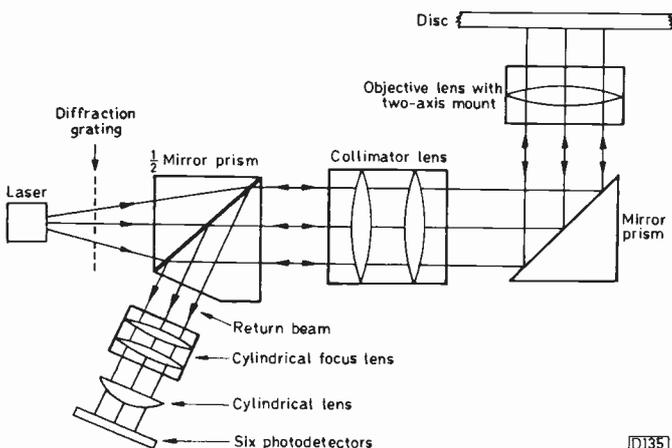

Fig. 4: Arrangement of the flat optical pickup (FOP).
**Fig. 4 (right):** Areas affected by the methods of adjusting the purity. (1) Affected by the rings, (2) affected by yoke positioning, (3) corrected by using disc magnets.
action. Once the red area has been centred, move the yoke backwards until a full red raster is obtained. In practice small purity errors will still be present. Position the yoke for optimum purity then correct these small purity errors by using disc magnets that stick on the back of the c.r.t. – these magnets are available from Sony under part number 1-452-032-00. They are self-adhesive. Also available are disc magnets that can be rotated with a screwdriver to give fine adjustment – part number 1-452-094-00. Fig. 4 shows the effects produced by these three methods of purity correction. Secure the yoke in position with the three rubber wedges.
The main problem with the T-type assembly is its comparatively large size. To reduce the deck size, and make possible the introduction of personal CD systems, a smaller laser assembly was required. For this reason Sony developed the single-beam assembly. It still left player manufacturers with some design problems which we'll go into later. A better solution was found in what is called the flat optical pickup (FOP). This is illustrated in Fig. 4: you will see that the polarising prism and quarter-wavelength plate have been replaced by a half mirror prism.
When light meets a half mirror prism fifty per cent of it passes straight through and the other fifty per cent is reflected. In the arrangement shown in Fig. 4 fifty per cent of the light emitted by the laser is reflected back and lost, the other fifty per cent passing through to the disc. Although the light reaching the photodetectors is only 25 per cent of the original beam it's still sufficient for accurate detection.